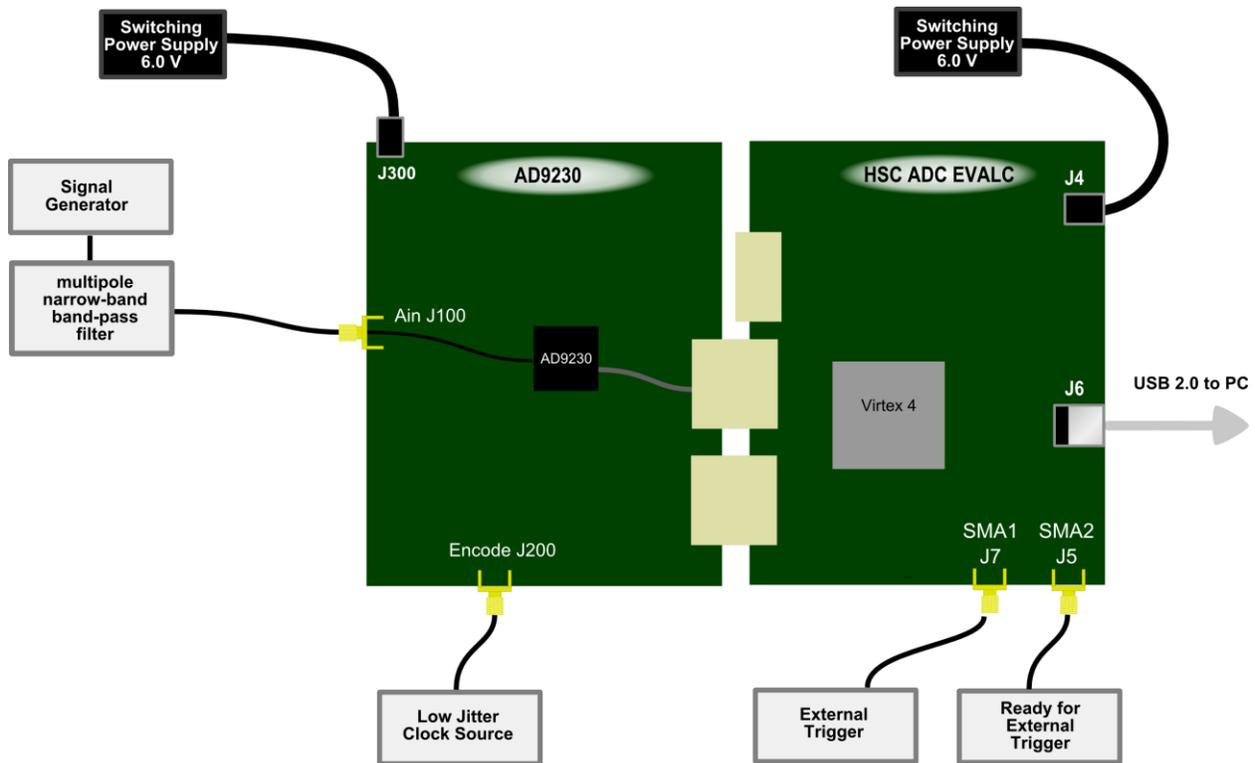

Figure 1: AD9230 ADC Evaluation Board – HSC ADC EVALCZ Data Capture Board
1. Connect the AD9230 evaluation board and the HSC-ADC-EVALCZ board together as shown in Figure 1.